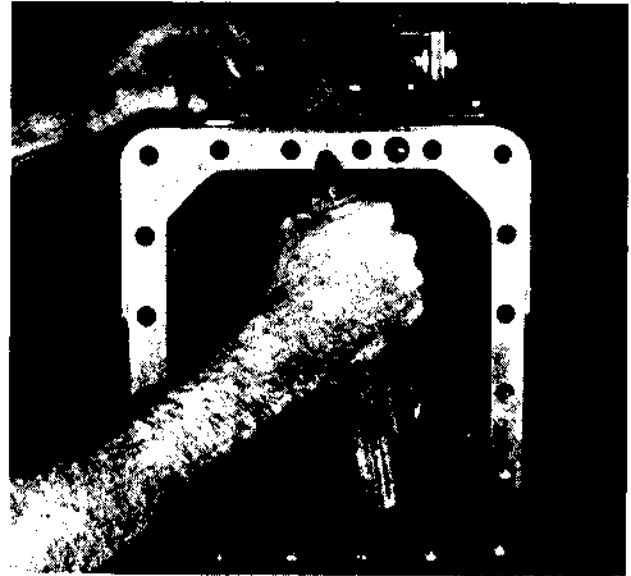

Figure 59
3. To remove the oil strainer, turn strainer assembly to one side and pull the strainer oil tube out of the housing. (Figure 59).
1. Set the oil strainer in position and push the oil tube into the housing (Figure 59). Spring tension will hold the strainer in place.